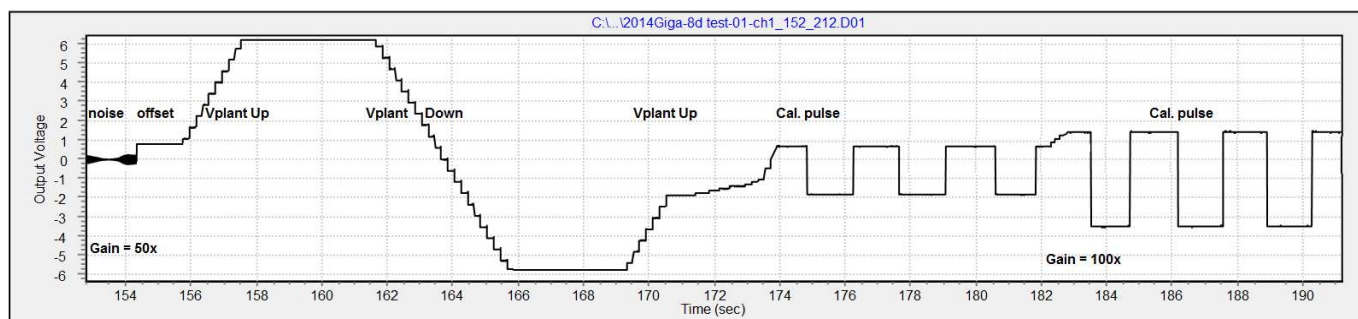

Fig. 8 Stylet+ screen. From L to R: open input (noise), test cable insertion with offset, Vplant Up and Down decrease, Cal.pulse 50x, then 100x
4. Often upon connection of the test cable a small voltage offset (Fig. 8) differing somewhat per channel may be shown. This is normal (see section 6.3 below) and will not affect the following test steps.
Then keep pressing the Up button until the scale maximum on the computer screen (Fig. 8). Then decrease Vsupply with the Down button subsequently until the scale minimum, and finally increase the Vsupply again up to about +1V.
7. Push Enter to switch the pulse ON and Enter again to switch it OFF. Repeat this several times and observe the pulse response (Fig. 8) on the computer screen. This should accomplish a negative output voltage step of -2.5V (-2500mV) lower than before the pulse at 50x gain.
8. With Cal.Pulse -50mV OFF press Down one line move to • Gain: 50x, panel 7, press Enter to > GAIN 50x, and increase the Gain (keep Up pressed) from 50x to 100x. Press Enter, then UP to the Cal. Pulse line and push the Enter button (pulse ON) and again (pulse OFF) several times and watch the computer screen for the two times larger pulse response shown now (5V output voltage, Fig. 8).
The actual value of the supplied voltage (V_{supply} in 3) may deviate from 0 Volt (Fig 8, offset) which is a normal property of the Giga device. In fact this offset is not relevant. The function of the supplied voltage is to compensate for other intrinsic voltages in the primary circuit, the electrode potentials especially, which can be up to ± 100 mV (!) and also some stable voltages are generated in the plant. The supplied voltage effect on the intrinsic voltages is shown in V_{out} as seen in the computer screen and should be adjusted by the user for each channel at start of each new recording: see chapter 11. For a more complete discussion see: <https://www.epgsystems.eu/measuring-systems>